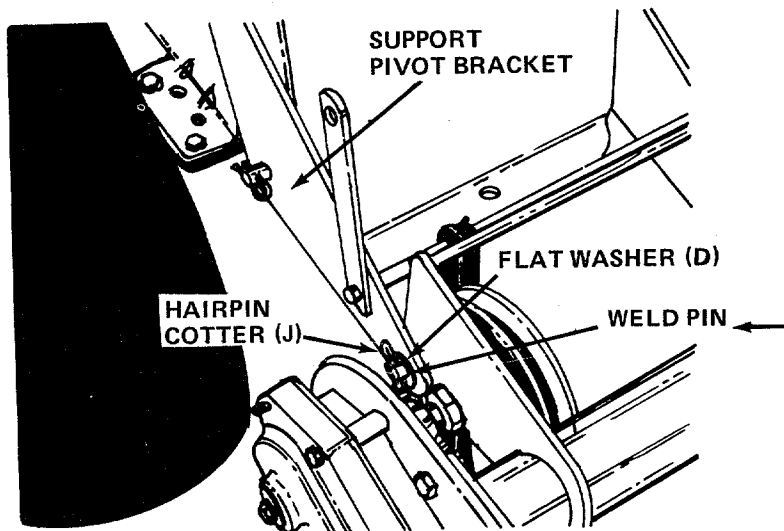

FIGURE 15
24. Secure the weld pin on the left hand side of tiller using one flat washer (D) and hairpin cotter (J). See figure 15.